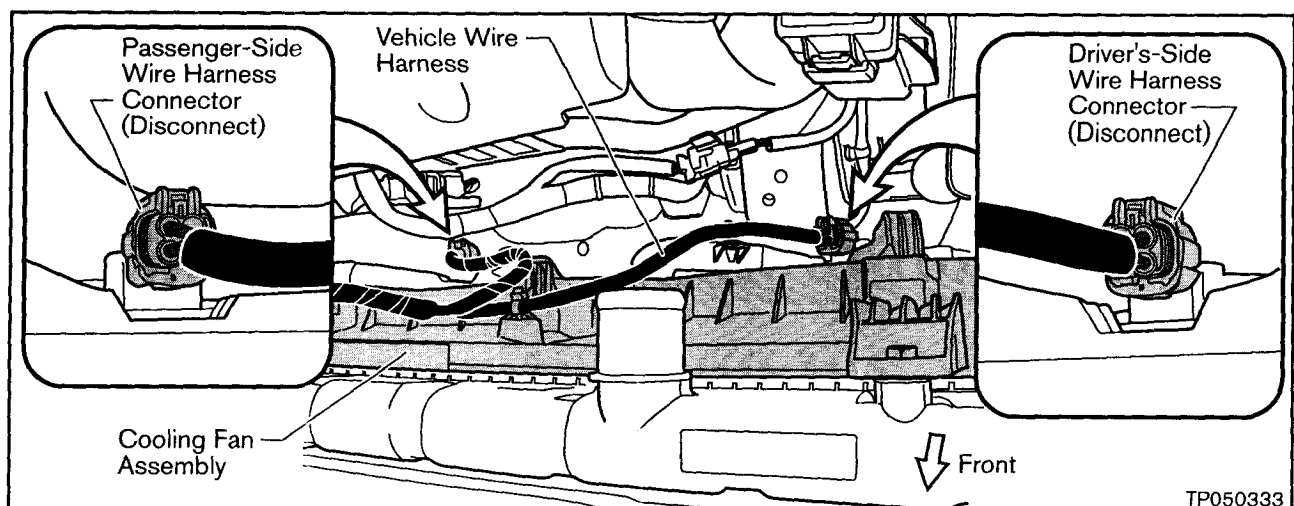

Figure 13
- a. Disconnect the Vehicle Wire Harness from the Fan Assembly (see Figure 13).